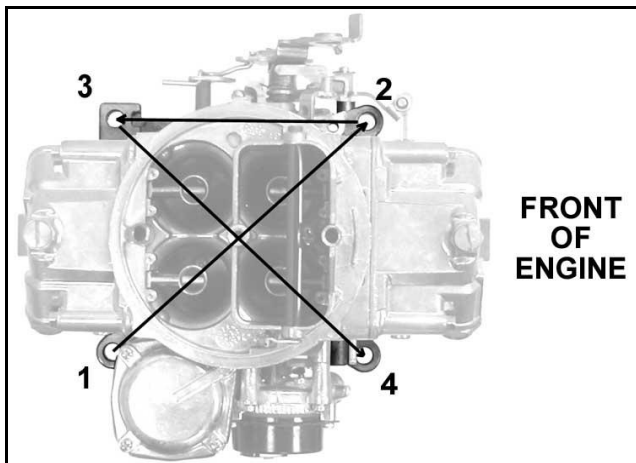

Figure 4
7. Place the carburetor on top of the intake manifold, making sure to engage the transmission kickdown stud. Hand-install the hold-down nuts first and then progressively snug down in a criss-cross pattern with a proper wrench. See Figure 4.